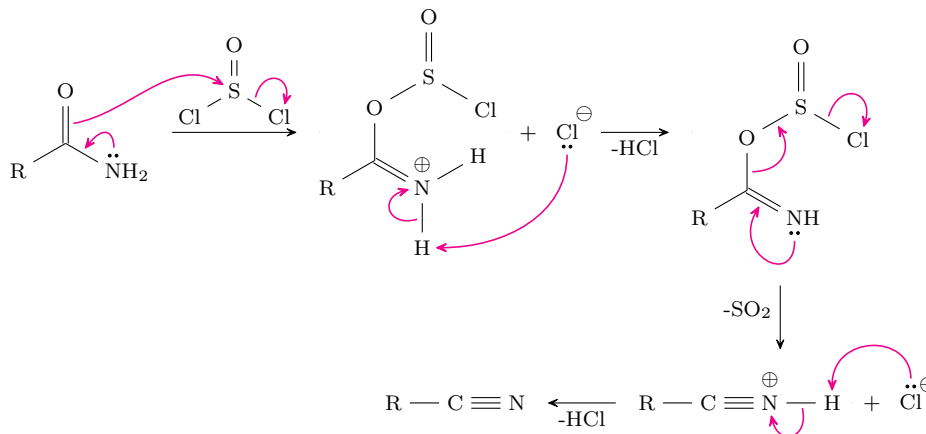

Figure 2.13: Dehydration of amides mechanism.
- Observations: (1) it's almost always the most nucleophilic and electrophilic atoms that react next in solution, and (2) electronegative  $\neq$  electrophilic as electronegative atoms often make adjacent atoms more electrophilic by withdrawing their electron density.
- Notice how the amide overall loses two hydrogens and an oxygen (i.e., a water molecule overall) in Figure 2.13.